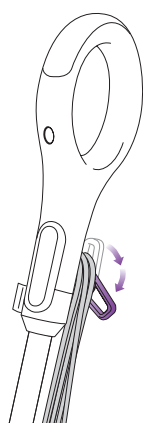

fig. 9
- 1 Twist the Quick-Release Cord Holder to unwrap the power cord completely. (**fig. 9**) Plug into an electrical outlet.